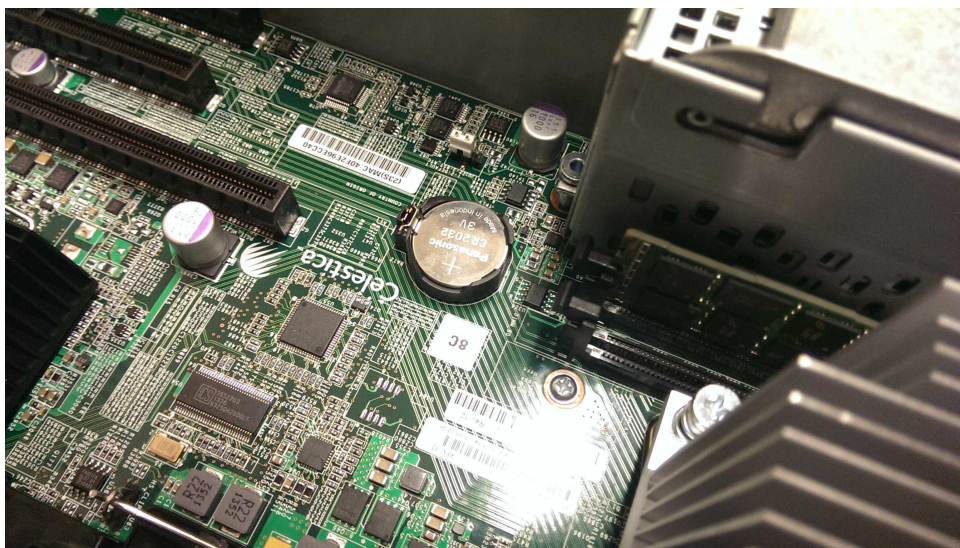

Figure 119. Replacing a CMOS Gen2 battery
3. Locate the CMOS battery inside the node canister.. See Figure 119 on page 376